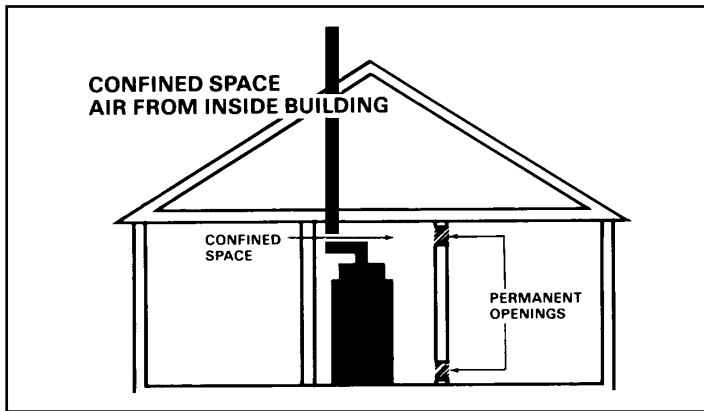
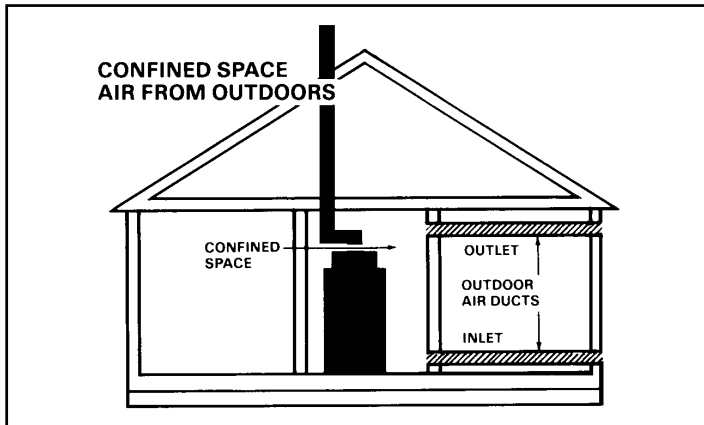

FIGURE 9
FIGURE 10
Confined spaces are installations with less than 50 cu. ft. of space per 1000 BTU/hr input from all equipment installed. Air for combustion and ventilation requirements can be supplied from inside the building as in Figure 9 or from the outdoors, as in Figures 10 & 11.
1. All air from inside the building as in Figure 9: The confined space shall be provided with two permanent openings communicating directly with an additional room(s) of sufficient volume so that the combined volume of all spaces meets the criteria for an unconfined space. The total input of all gas utilization equipment installed in the combined space shall be considered in making this determination. Refer to Table 3, for minimum open areas required.
2. All air from outdoors as in Figures 10 & 11: The confined space shall be provided with two permanent openings, one commencing within 12 inches of the top and one commencing within 12 inches of the bottom of the enclosure. The openings shall communicate directly, or by ducts, with the outdoors or spaces (crawl or attic) that freely communicate with the outdoors. Refer to Table 3, for minimum open areas required.